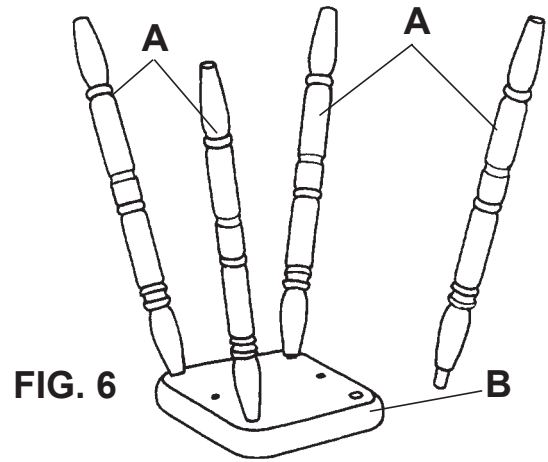

FIG. 6
- 6) Place the disc (B), top side down, on your work surface. (The top side is marked with indentations for attaching the swivel later). Spread glue evenly in each leg hole in the disc, and a thin film of glue around the end of the turning. Put a Leg (A) in each hole and tap into place with the rubber mallet, as shown in FIGURE 6.